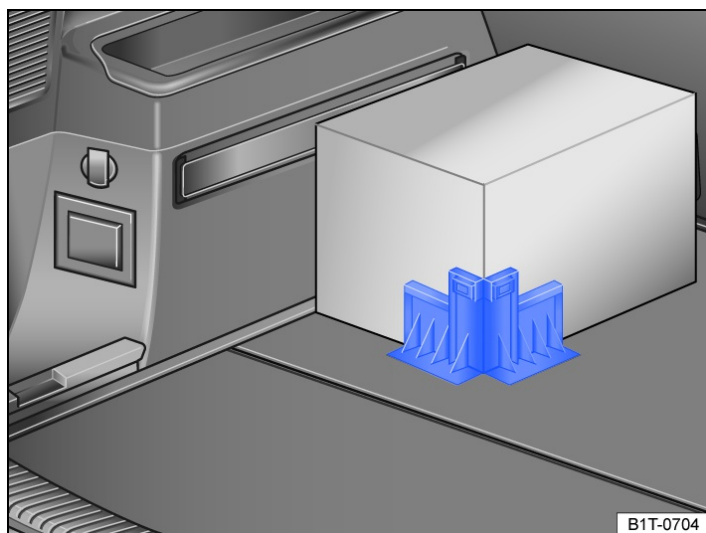

Fig. 2 In the luggage compartment: securing items with the load securing corner.
- Secure the luggage securing corner on the luggage compartment floor with the Velcro fastener in order to fix the item to be transported in position → Fig. 2.